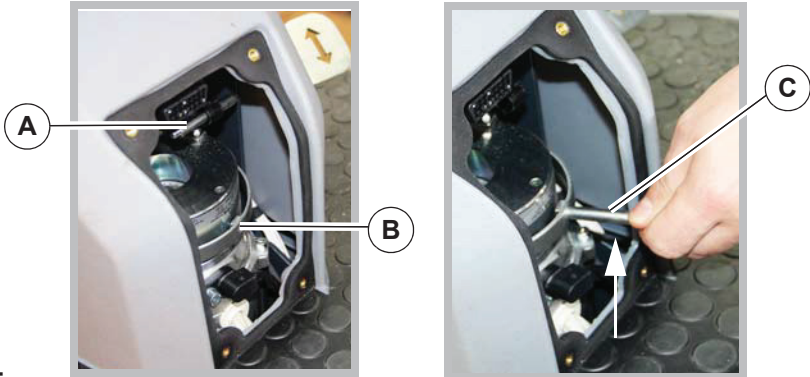

Fig. 19:
2. Remove the pin **Fig. 19-A** from the holder and screw it into the ring **Fig. 19-B**.